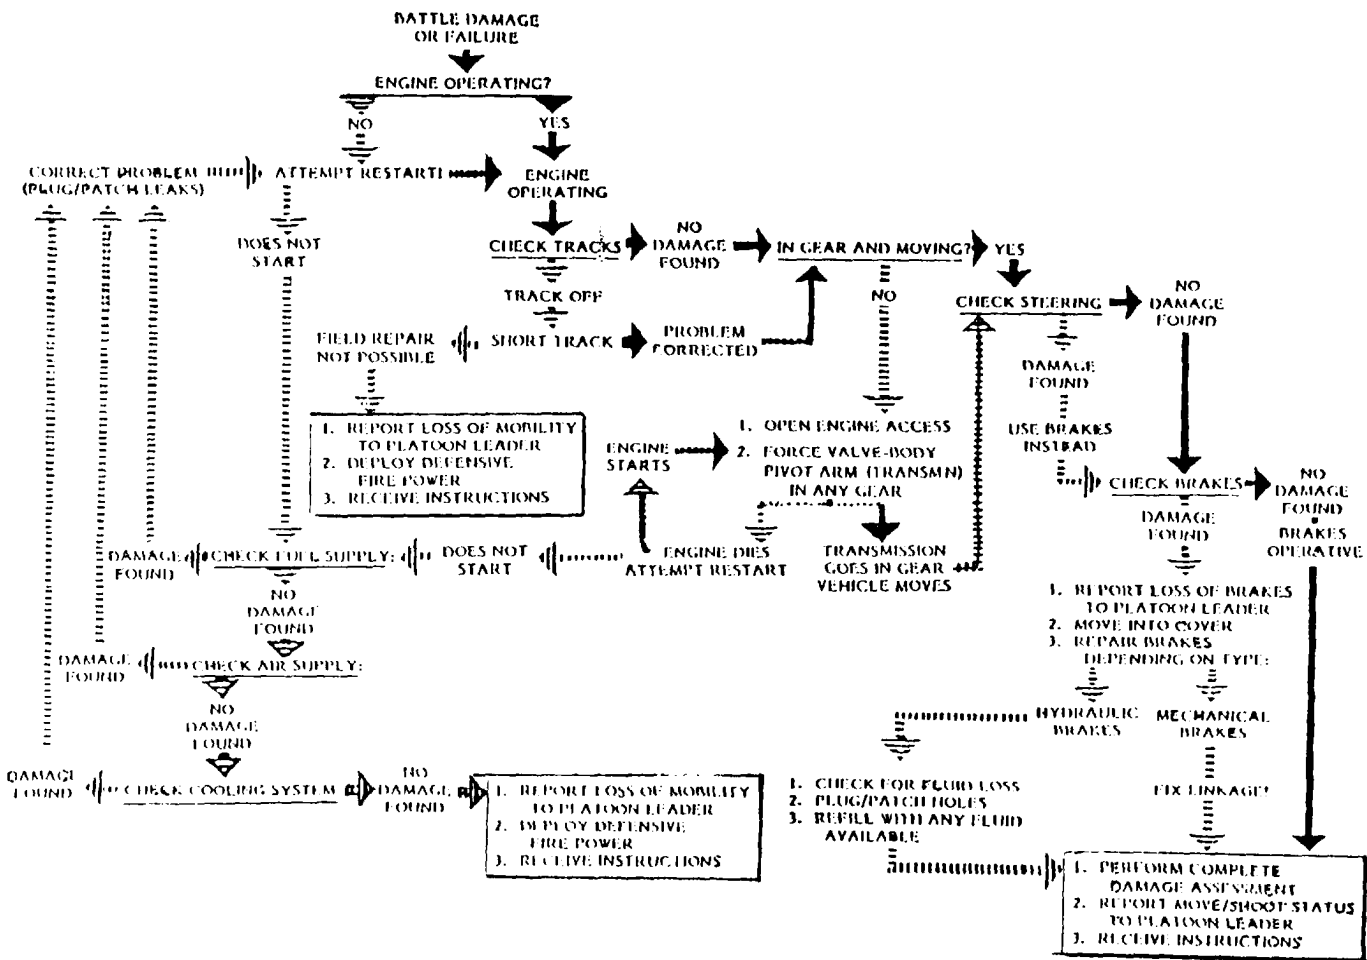

Figure 2-1. Battlefield Damage Assessment Process.
a. The assessment procedures are structured using the logic process shown in figure 2-1 below,